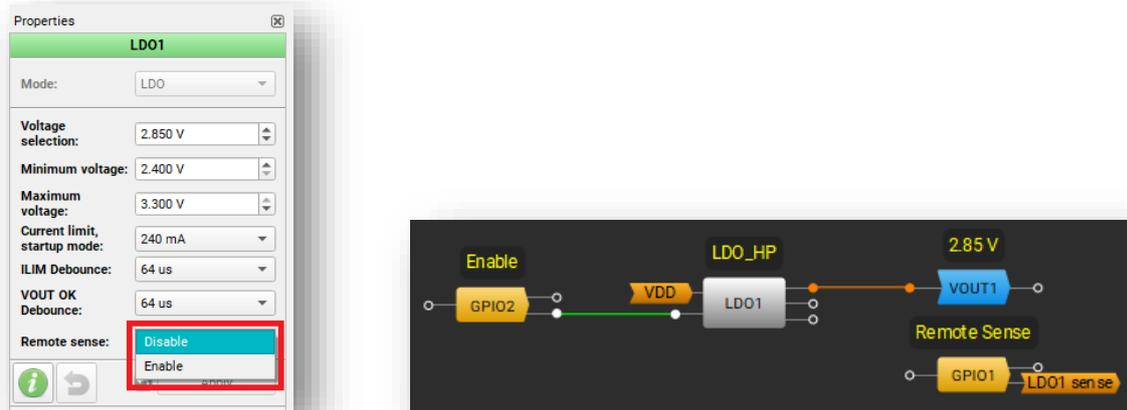

Figure 2: LDO1 settings in the Go Configure Software Hub to enable Remote Sense
3. Open the LDO1 settings and enable the Remote Sense function, as shown in Figure 2.